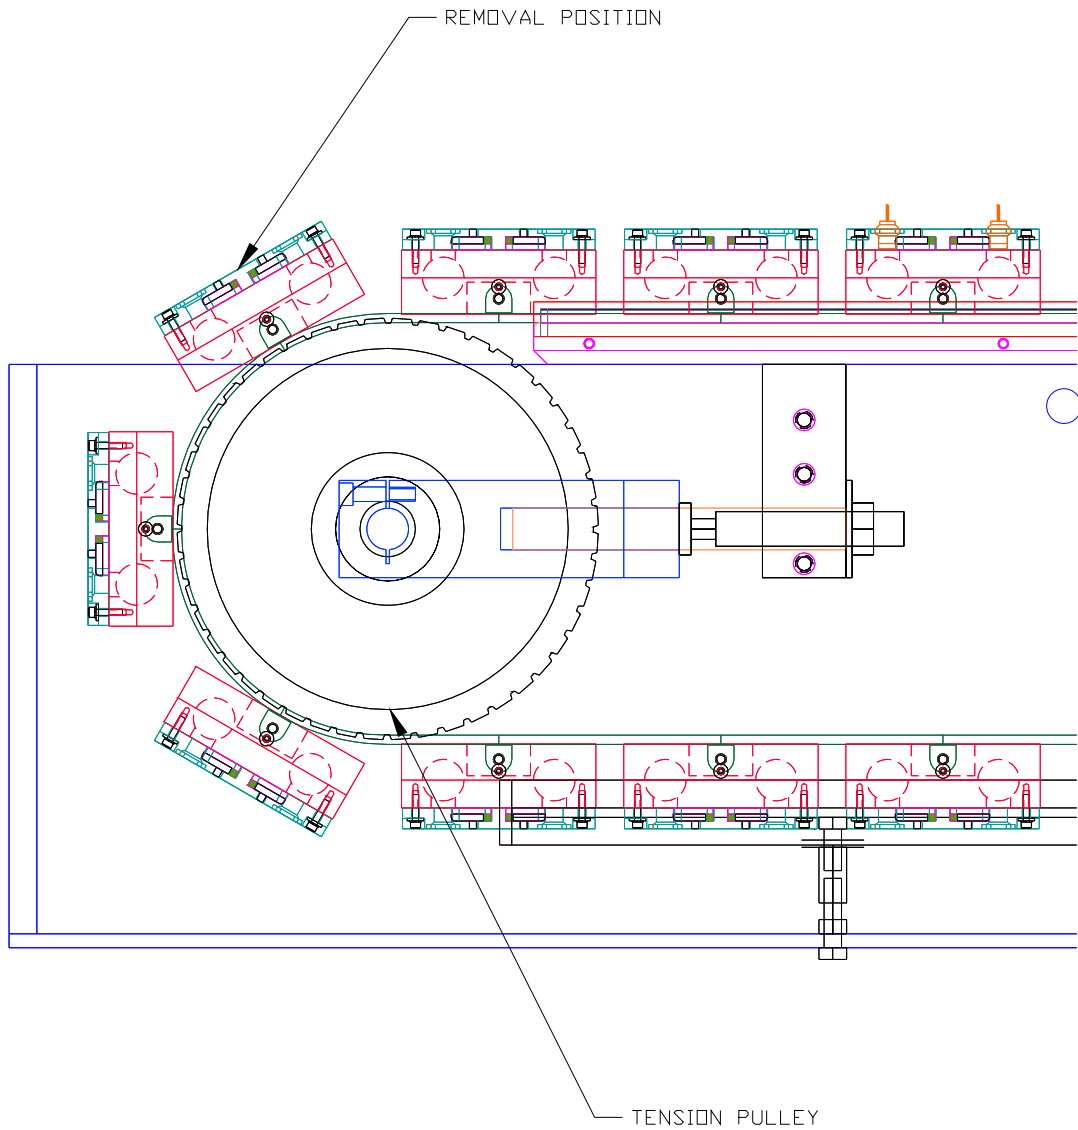

Figure 5 PALLET REMOVAL/REPLACEMENT POSITION
1. PLACE THE MACHINE INTO MAINTENANCE MODE AND JOG THE PALLET TO BE REMOVED TO JUST BEFORE THE LOAD STATION (Figure 5).